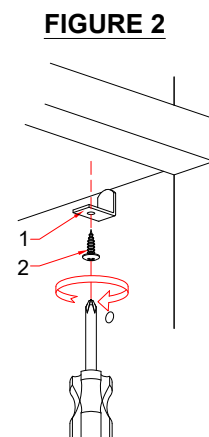

FIGURE 2
2. Install the metal shelf holders (1). Set the removable shelf panels (B & C) on the shelf holders, then affix them together by inserting round-head screws (2) provided. See FIGURE 2.